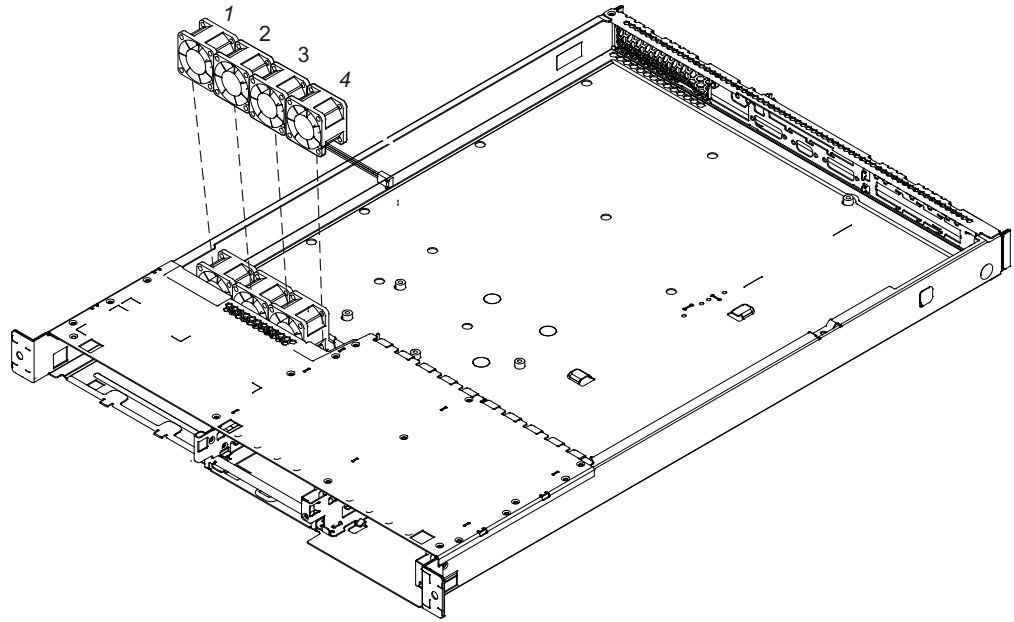

Figure 99. Removing a microprocessor fan
4. Refer to Figure 99 on page 157.
6. The fans are numbered from one to four, from left to right. See Figure 99. Lift the fan upward out of the retaining clip.